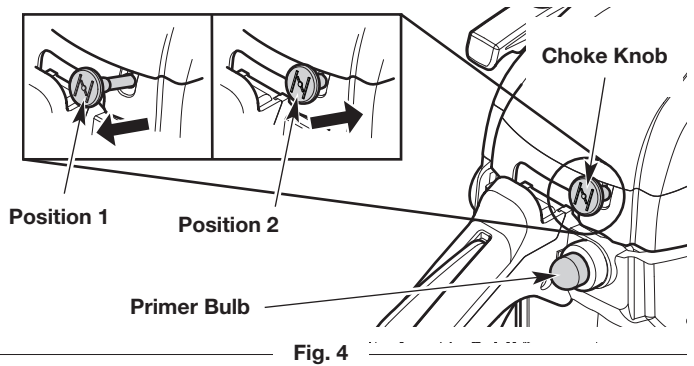

Fig. 4
2. Slowly press and release the primer bulb **10 times** (Fig. 4). If fuel cannot be seen in the primer bulb, press and release the primer bulb until fuel is visible.
3. Pull the choke knob out to **Position 1** (Fig. 4).
7. Push the choke knob in to **Position 2** (Fig. 4).